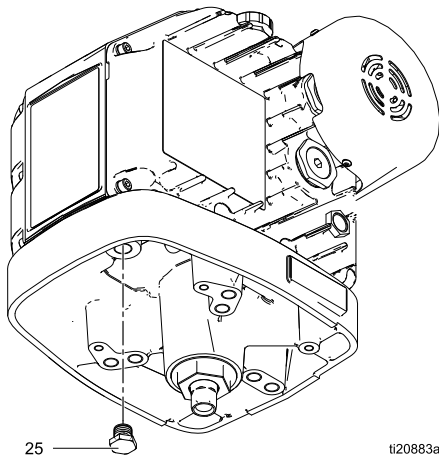

Figure 7 Oil Drain Plug
3. Reinstall the oil drain plug (25). Torque to 25–30 ft-lb (34–40 N•m).
4. See Fig. 7. Open the fill cap (P) and add Graco Part No. 16W645 ISO 220 silicone-free synthetic gear oil. Check the oil level in the sight glass (K). Fill until the oil level is near the halfway point of the sight glass. The oil capacity is approximately 1.5 quarts (1.4 liters). **Do not overfill.**
See Fig. 7. Check the oil level in the sight glass (K). The oil level should be near the halfway point of the sight glass when the unit is not running. If low, open the fill cap (P) and add Graco Part No. 16W645 ISO 220 silicone-free synthetic gear oil as required. The oil capacity is approximately 1.5 quarts (1.4 liters). **Do not overfill.**
See Fig. 7. The bearing pre-loads (R) are factory set and are not user adjustable. Do not adjust the bearing pre-loads.